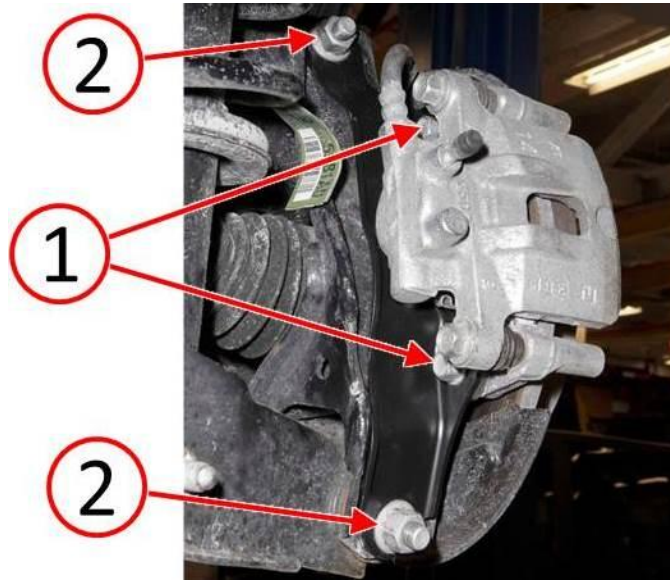

Fig. 4 Brake And Control Arm Fasteners
12. Thread the upper and lower control arm nuts (2) fully onto the bolts until no clearance remains between the nuts, anti-vibration bracket, and trailing arm. **Do not tighten the nuts at this time** (Fig. 4).
- 13. Tighten the caliper anchor mounting bolts (1) to 68 N•m (50 ft. lbs.) (Fig. 4).
18. With the vehicle resting at curb height, tighten the bolts and nuts (2) securing the upper and lower control arms to the trailing link to 105 N•m (77 ft. lbs.) (Fig. 4).